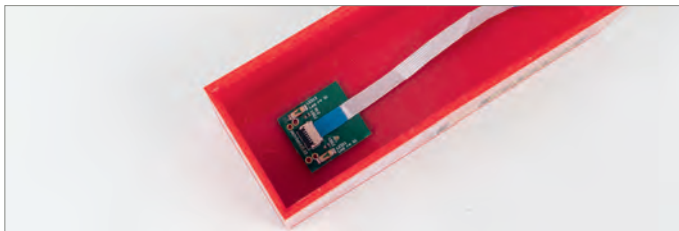

Abb. 37: Secure the ultrasound probe
- ▶ Use tweezers to open the clamp on the ribbon connector by lifting the black clamp strip up 90°. Insert the ribbon cable into the connector and secure it with the tab (see Figure 37). Make sure that the colored side faces you and the contact surface faces the circuit board. Then put the black clamping strip back in place.